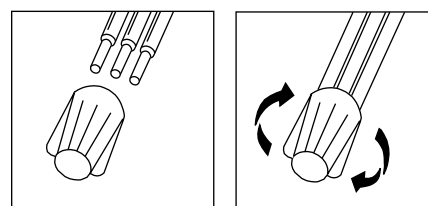

Fig 7.0
- Make the electrical connection to the towel rail using the waterproof wirenut connectors provided. See Fig 7.0